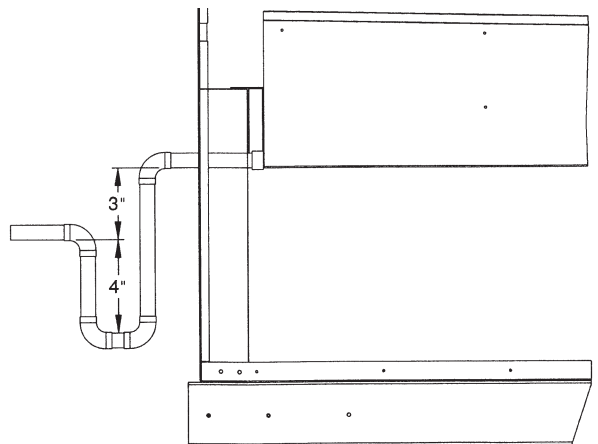

Fig. 20 — Condensate Drain Trap Piping Details (Typical Roof Curb or Slab Mount Shown)
Step 6 — Trap Condensate Drain — See Fig. 5-12 for drain location. Condensate drain is open to atmosphere and must be trapped. Install a trapped drain at the drain location. One 1-in. female coupling is provided inside the unit evaporator section for condensate drain connection. A trap at least 4 in. deep must be used. See Fig. 20. Trap must be installed to prevent freeze-up.